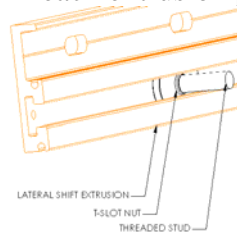

Figure 6
3. Place four T-slot nuts and threaded studs in each extrusion pair (see Figure 6).